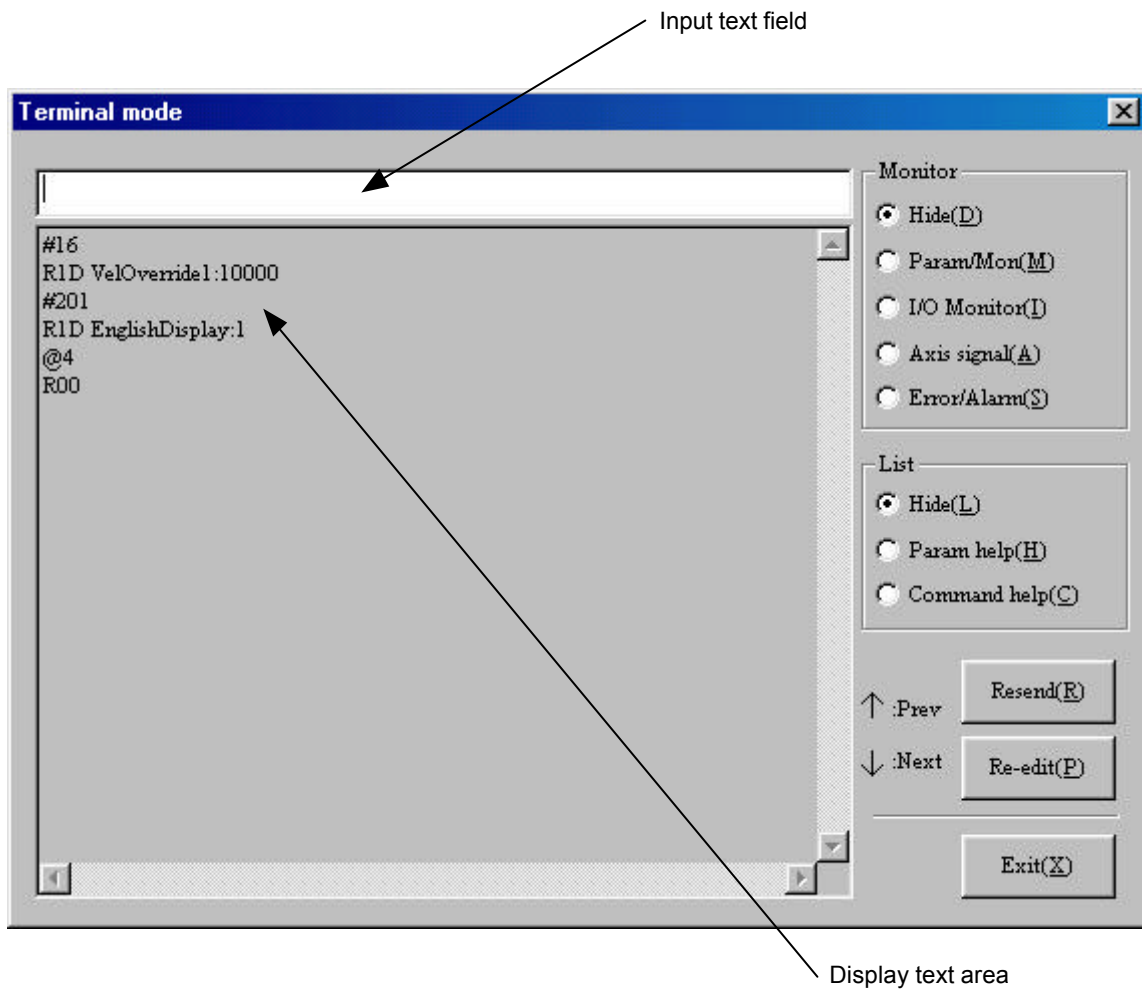

Figure 7.9 “Terminal” dialog box
Click “*Terminal (T)*” under “MainMenu” to display the “Terminal” dialog box (see Figure 7.9).